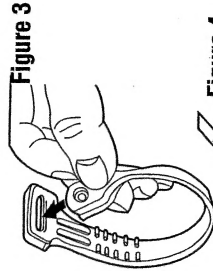

Figure 3
1. Push double hole end of holder through slot in other end of holder (Figure 3).